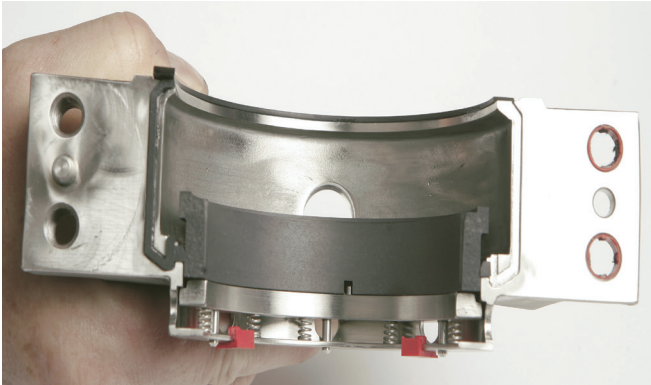

Figure 35
- 14.3 Align the lock pin a with the lock pin slot. See Figure 35.